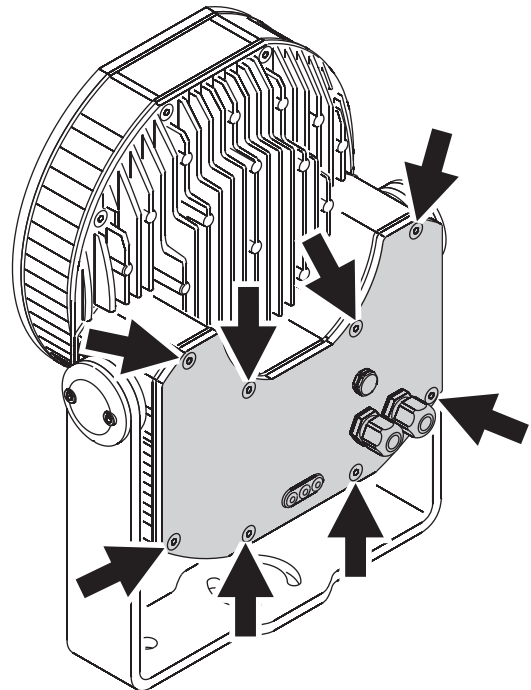

Figure 8: Rear cover retaining screws
3. See Figure 8. Remove the rear cover retaining screws (arrowed) and remove the rear cover.